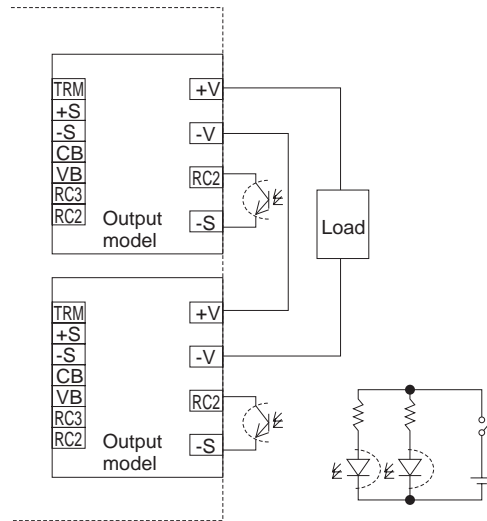

Fig.2.2 Example of remote control circuit in series operation
- ①The output stops when the current is drawn in RC3. The current drowning RC3 is less than 12mA.
- ②Built-in fans do not stop even if the output is turned off with remote ON/OFF circuit.
- ③The IOG signal is output when the output voltage is turned off with remote ON/OFF.
- ④You should be careful of electric potential in series when you wire the remote control circuit,since it is not insulated from the output. Example of a circuit in series is shown in Fig.2.2.